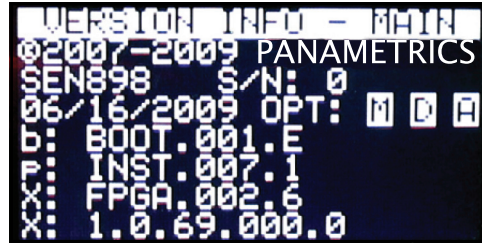

Figure 53: Software verification screen
- c. Press [ENT] again to enter Main. The display should appear similar to *Figure 53* below.